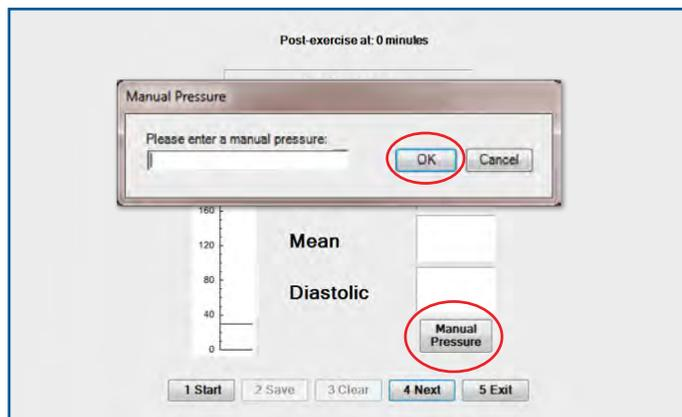

FIGURE 1.44 - "Manual Pressure" Button and Manual Pressure Window - "OK Button"
18. Click "Manual Pressure" and input the indicated arm systolic brachial pressure. Click "OK" (Figure 1.44).